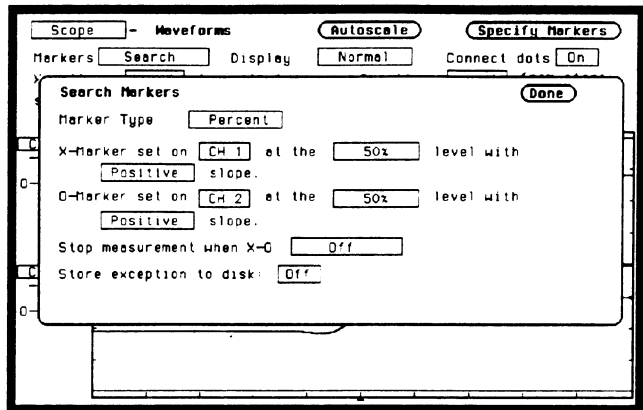

Figure 25-24. Specify Search Markers Pop-up
4. Select **Specify Search Markers** and set Pop-up as shown in figure 25-24.